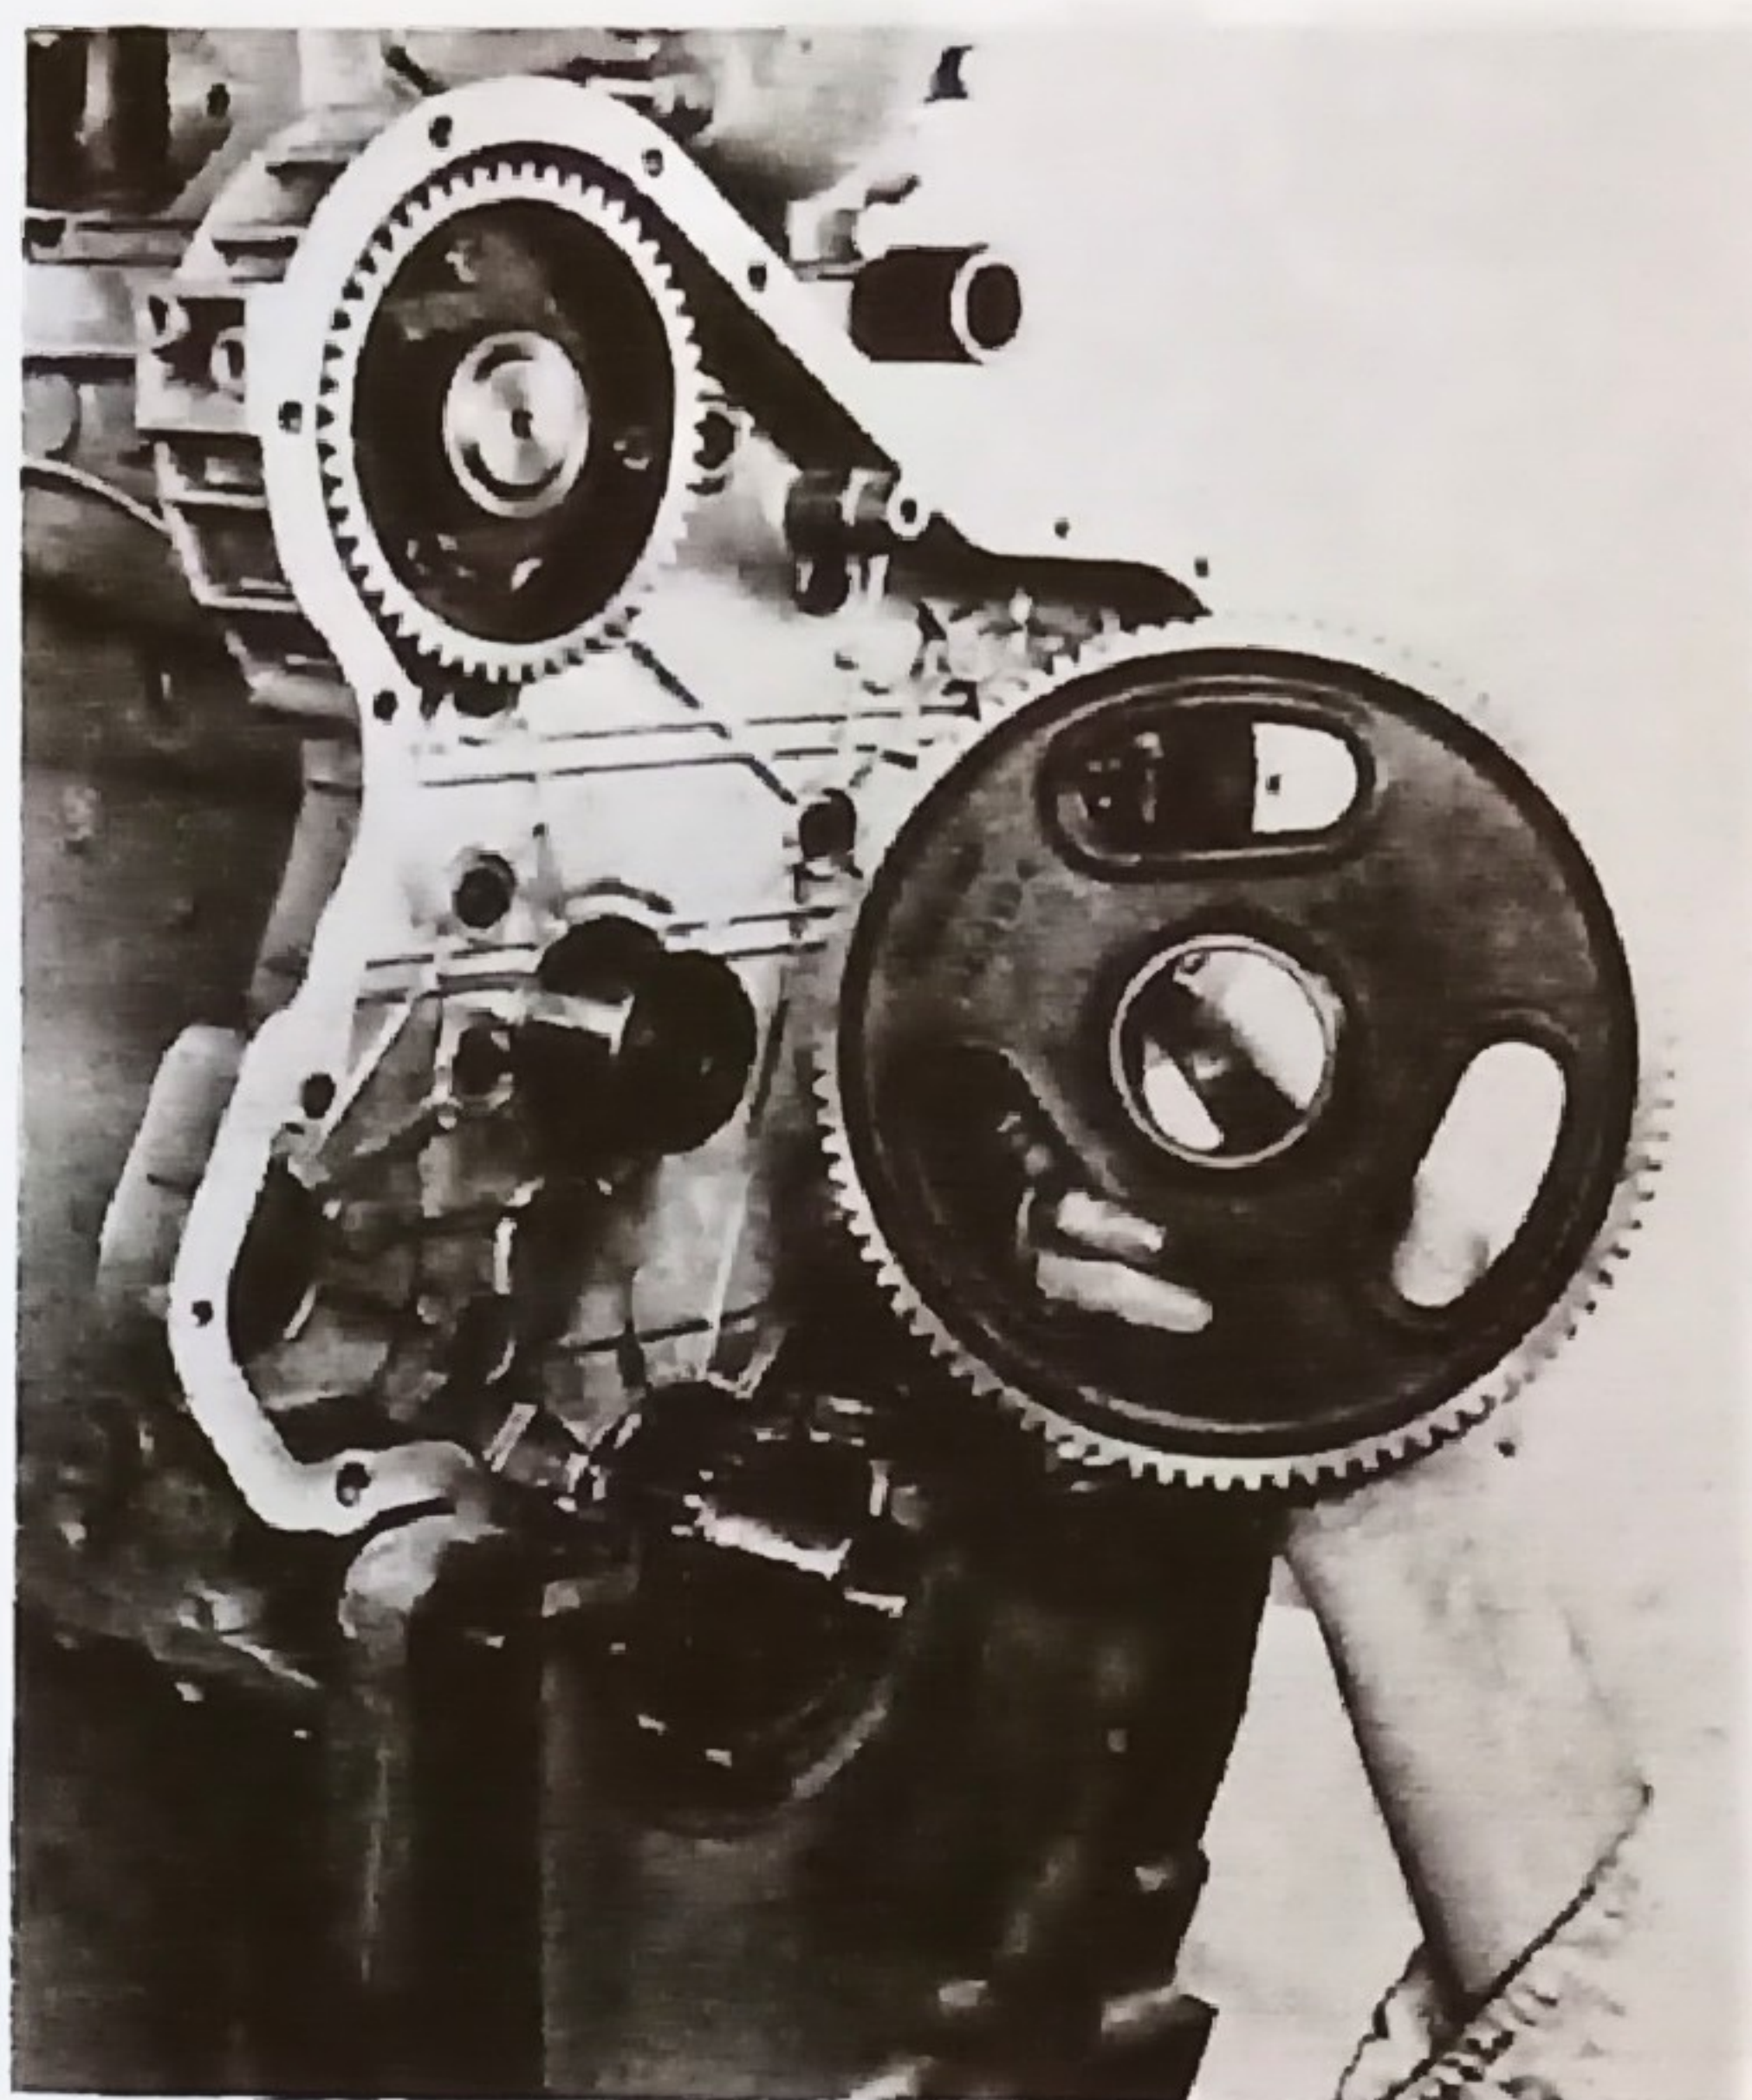

Fig. 39 - Removing or Installing Idler Gear
2. Remove idler gear from its hub as shown in Fig. 39.